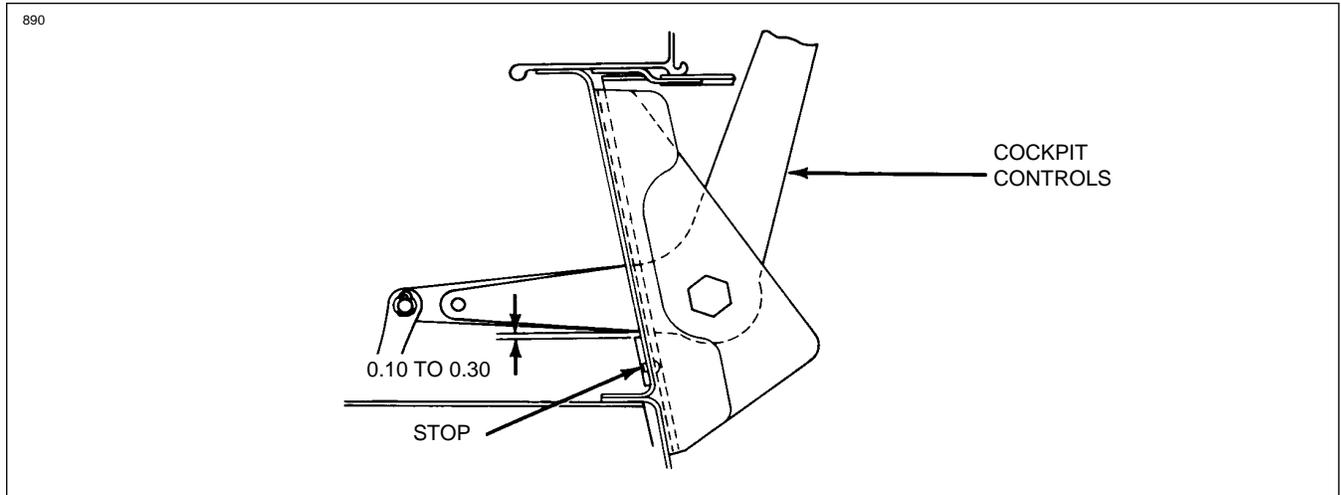

Figure 8-5. Adjustment of Engine Controls
**8-15. ADJUSTMENT OF THROTTLE AND MIXTURE CONTROLS.** (Refer to Figure 8-5.) Throttle and mixture controls are adjusted so that when the throttle arm on the carburetor is rotated forward against its full throttle stop and the mixture control is rotated forward against its full rich stop, the cockpit control levers of the throttle and mixture should have 0.010 to 0.030 of an inch spring back on instrument panel stop when in full throttle or full rich position.